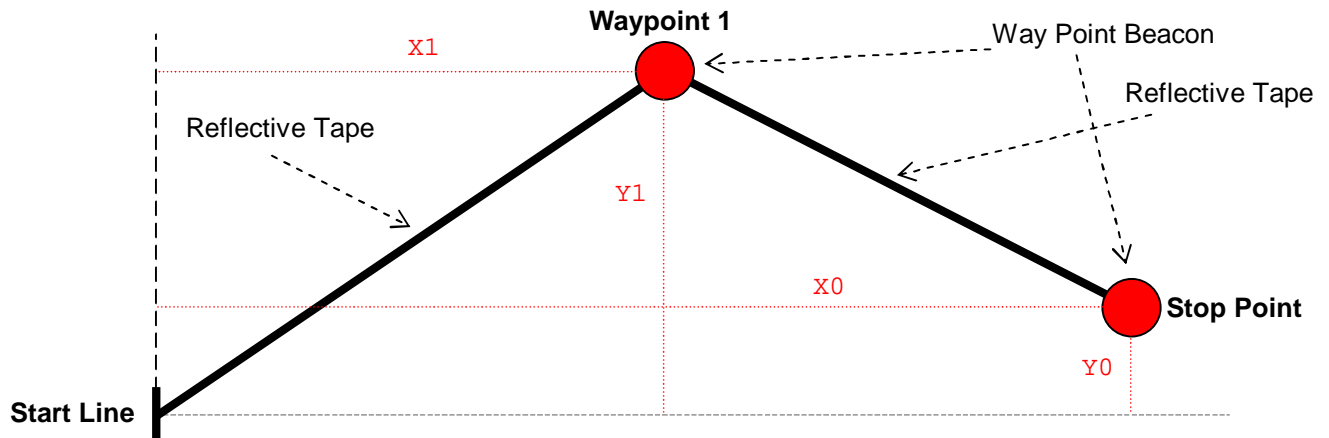

Fig. 2 - Sample Humanoid Race Track
3.2 The Race Track: The Race Track shown in Fig 2 is constructed directly on the floor of the competition venue by WHITE color reflective tape of WIDTH 25mm.